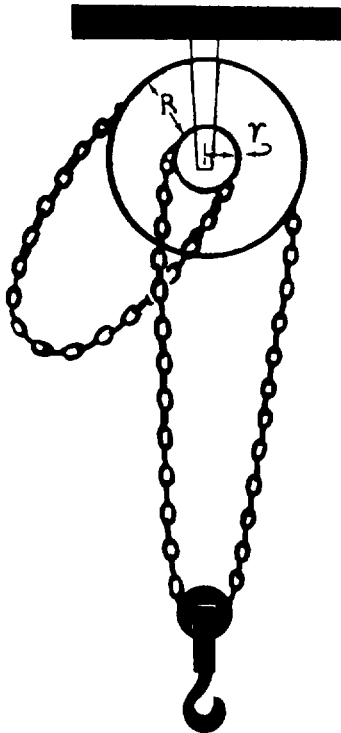

Figure 1M
- 1-42. The theoretical mechanical advantage of a differential pulley, such as the one pictured in figure 1M, depends upon the
- 1-43. In the differential pulley pictured in figure 1M, if the radius of the small pulley at the top is 3 inches, the radius of the large pulley at the top is 4 inches, and the radius of the pulley at the bottom is $2\frac{1}{2}$ inches, the theoretical mechanical advantage is